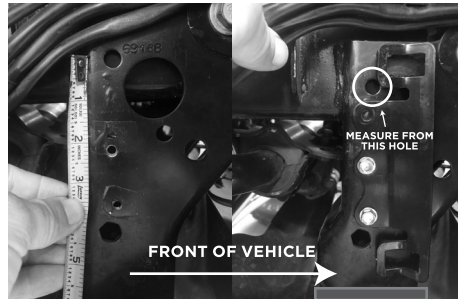
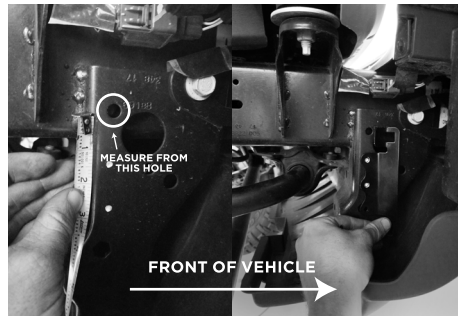

Fig. 1: RUBICON(passenger side): Use the bottom 2 holes on the bracket to mount.
Fig. 2: NON-RUBICON(passenger side): Use the top 2 holes on the bracket to mount.
4. Install the supplied reservoir brackets to the vehicle behind the bumper above the skid plate. If equipping a Jeep JL Rubicon, place the center hole on the supplied Fox bracket 2 1/4" below the hole on the front bumper bar (Fig. 1). If equipping a Jeep JL Non-Rubicon, place the center hole of the supplied Fox bracket 2 3/4" below the hole on the front bumper bar (Fig. 2). Use the bracket to mark the center hole on the bracket. Using a 7/32" drill bit and the marked location of the hole, drill a pilot hole for the supplied 3/8" self-tapping screw. Secure the bracket using the supplied